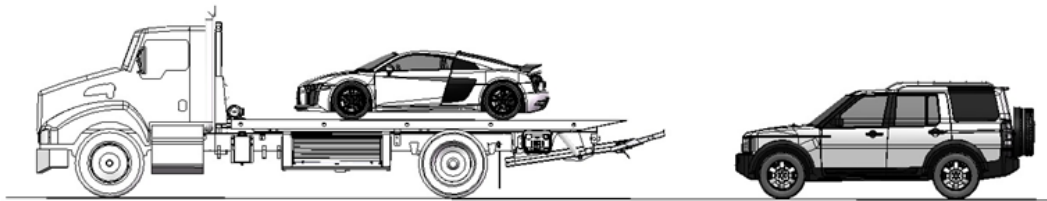

FIGURE 39 – POSITION THE TRUCK
A load must be on the carrier before you use the wheel lift for towing another vehicle, as shown in Figure 39.
2. Align the truck with the vehicle to be towed. Position the truck three to four feet from the vehicle to be towed, as indicated in Figure 39.